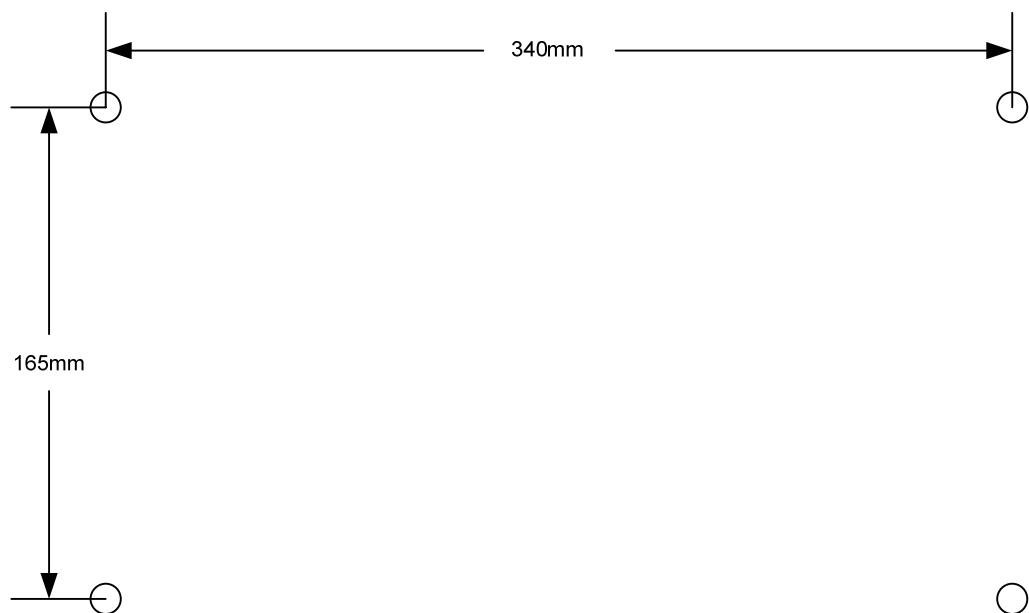

Figure 4      Drilling holes layout
1. Drill the wall to install the four M6 screw anchors according to the layout show in figure 4.